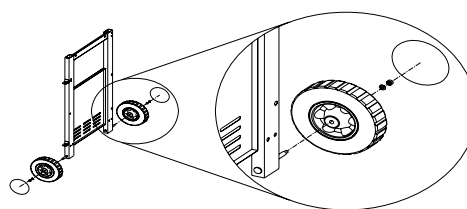

Figure 1
1. Attach the wheels to left side panel using (2) 1/4" hex nuts with (2) 1/4" flat washers. Then snap the wheel caps onto the wheel hubs. (Fig.1)